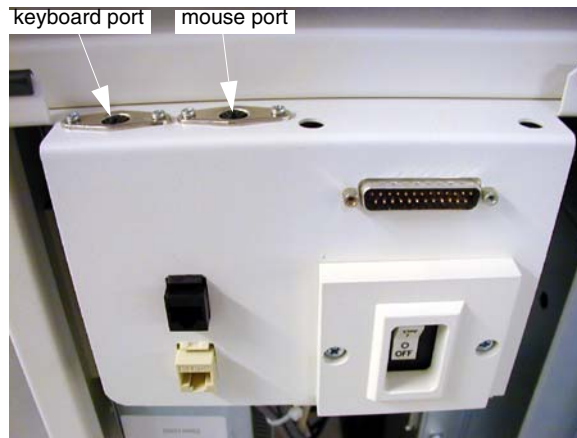

Figure 2-5 Global Console front bulkhead, showing keyboard and mouse connections
- 2.) The keyboard and mouse connect to the ports on the top of the console front bulkhead. The mouse connects to the port on the right, the keyboard connects to the left port (Figure 2-5).